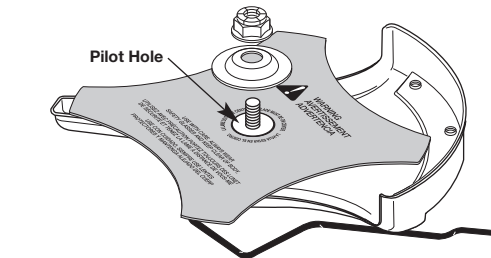

Fig. 14
- Make sure that the cutting blade is centered on the pilot step and sitting flat against the output shaft bushing (Fig. 14).